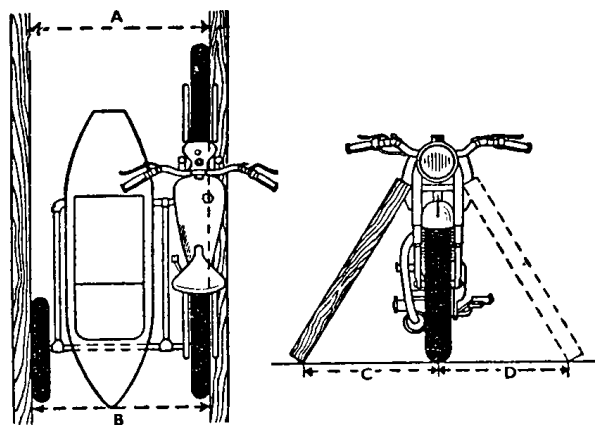

FIG. 61. CHECKING WHEEL ALIGNMENT ON A SIDECAR OUTFIT
Before checking the wheel alignment of a sidecar outfit, place the outfit on a smooth floor, preferably a concrete surface. Referring to Fig. 61, to check that all three wheels of the A.J.S. are running in track, place one of the long boards alongside the front and rear tyres of the motor-cycle and verify that the board contacts the front and rear of each tyre, as when
Without disturbing the board placed alongside the motor-cycle tyres place the second longboard so that its true edge contacts the sidecar tyre, as illustrated in Fig. 61. Then, with a steel measuring-tape check dimensions (A) and (B), with the tape as close to the tyres as practicable. To obtain the best results, dimension
Having checked the three wheels for alignment, verify that the motorcycle itself is quite vertical. Referring to Fig. 61, take the 4 ft. board and rest it at a given point against the upper part of the "Teledraulic" front forks. Mark the floor where the edge of the board touches it. Then rest the board on the opposite side of the forks with its upper end in exactly the corresponding position and again mark the floor where the lower edge of the board touches. With the steel measuring-tape, check dimensions (C) and (D). If the machine is truly vertical, these two dimensions